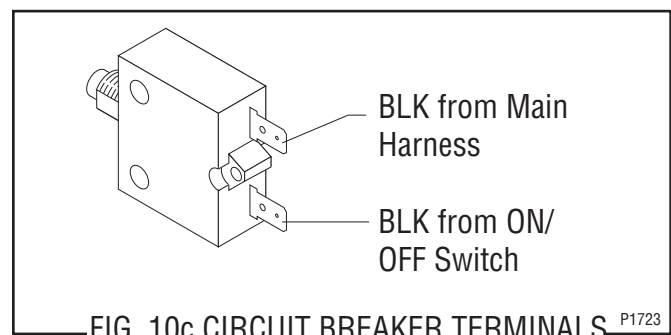

FIG. 10c CIRCUIT BREAKER TERMINALS
5. Refer to Fig. 10c and reconnect the wires.